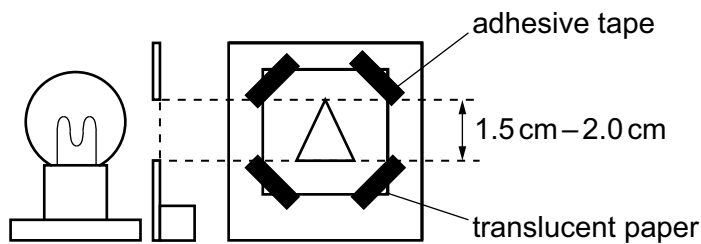

Fig. 3.1
- (iii) Illuminated object consisting of rigid card with a triangular hole of height 1.5 cm to 2.0 cm (see Fig. 3.1). The hole is to be covered with thin translucent paper (e.g. tracing paper) secured with adhesive tape. See note 1.